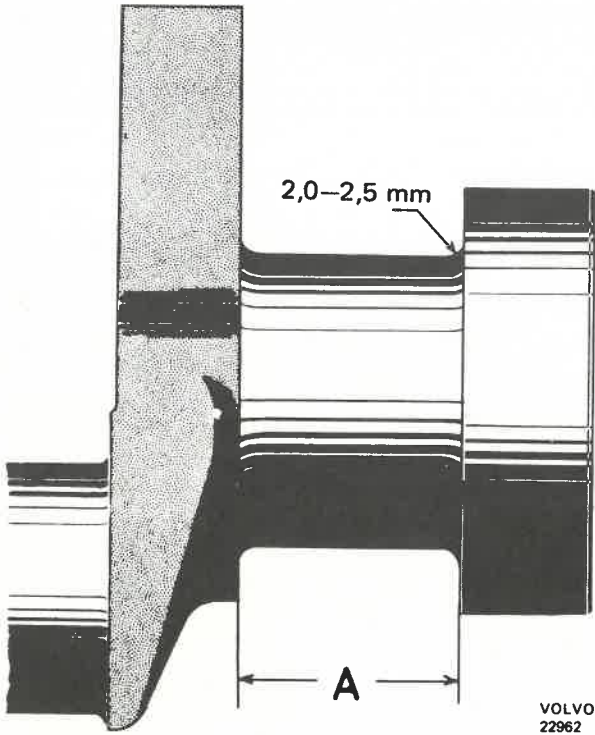

Fig. 21-51. Bearing journal
The journal fillets should be 2.0–2.5 mm (0.08–0.10") for all journals, Fig. 21-51. The width measurement (A) for the pilot bearing will depend on the size of the journal and should be ground so that the correct measurement is obtained. After the grinding the oil channel openings should be carefully cleaned and all journals lapped with a fine lapping paste to best surface finish, after which the shaft is washed. Clean all oil channels with particular thoroughness in order to remove all residues of filings and grinding paste.